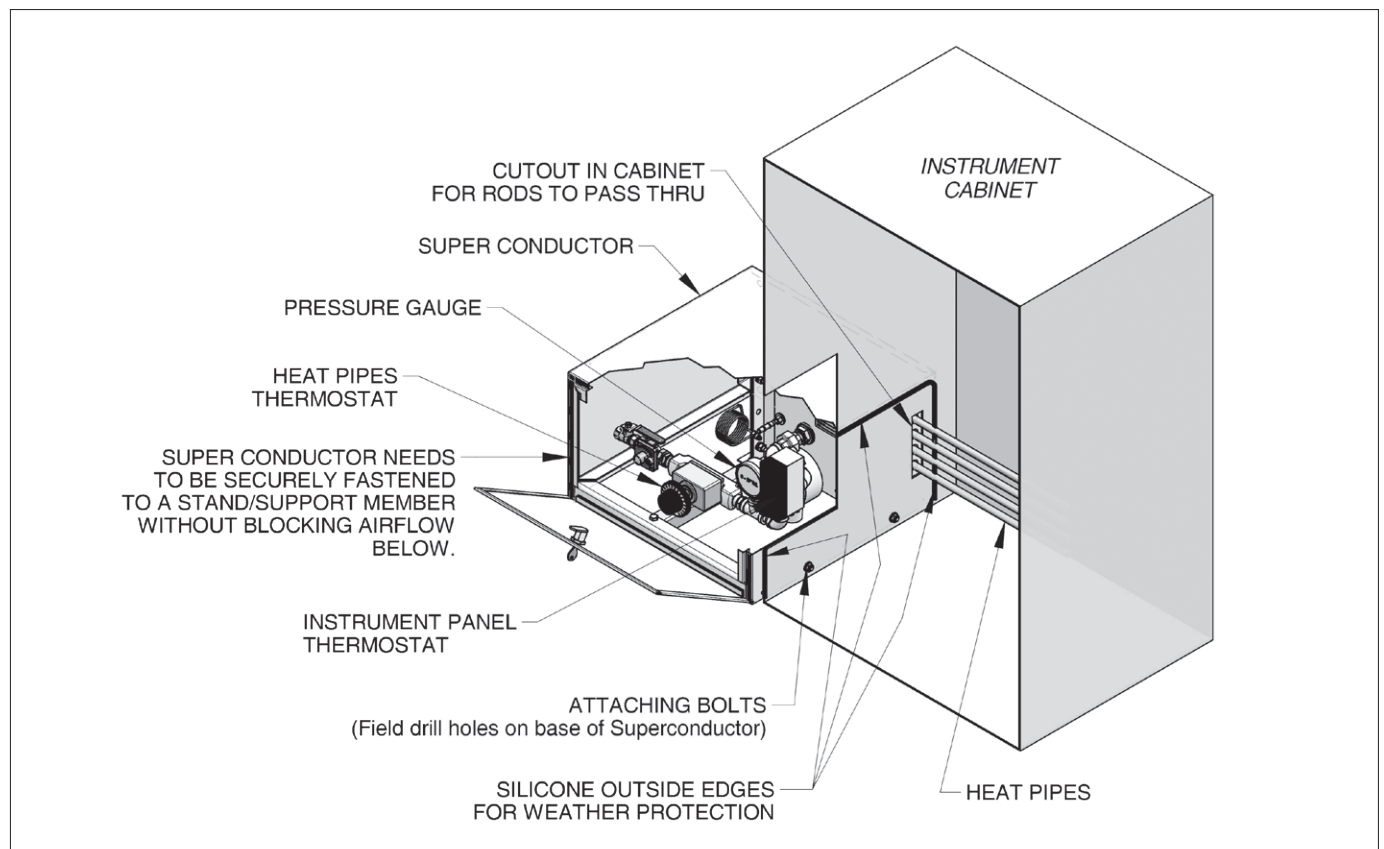

Figure 1
2. Turn Instrument Panel Thermostat knob to “7” and Heat Pipe Thermostat counter-clockwise to “10”. Refer to Fig. 1.
1. The Superconductor has been supplied with heat pipes to conduct the heat generated from the heater into a separate enclosure. The face of the heater is mounted approximately 1/4" from the absorption plate of the heat pipes. Insert the heat pipes into the instrument enclosure as far as practical. Ideally, the side of the Superconductor enclosure should be installed (bolted through) the side of the instrument cabinet as illustrated in Fig. 1.
Bolt holes need to be field drilled into the instrument cabinet and Superconductor enclosure. Ensure that any portion of the heat pipe not in the enclosure or at the face of the heater is insulated, preferably with ceramic insulation. Apply a bead of outdoor rated silicone as shown in Figure 1 for weather protection.